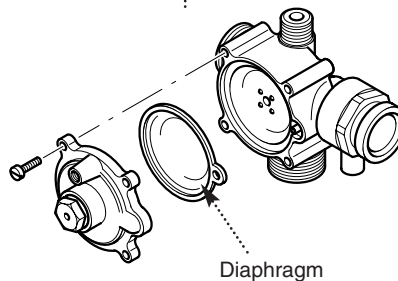

Fig. 61
12.21 Central Heating Differential Valve Microswitch (Fig. 61)